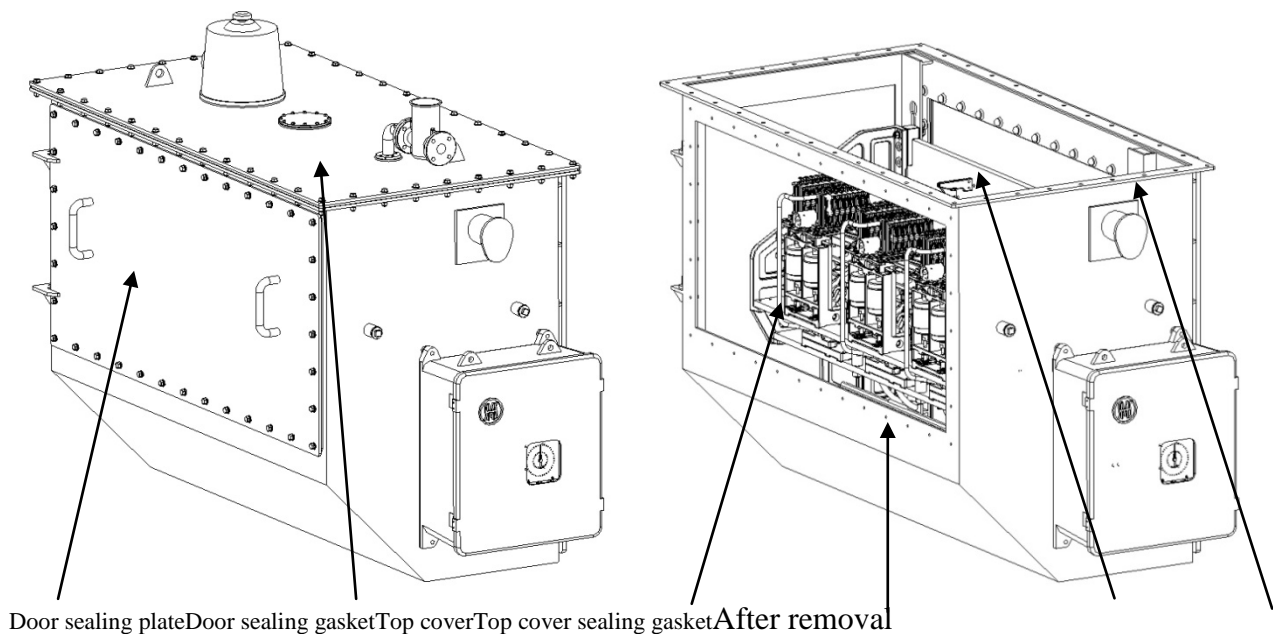

Fig. 4
3.1 Remove the oil tank topcover, top cover sealing gasket, door sealing plate, door sealing gasket and bolt & nut washer, see fig. 4: